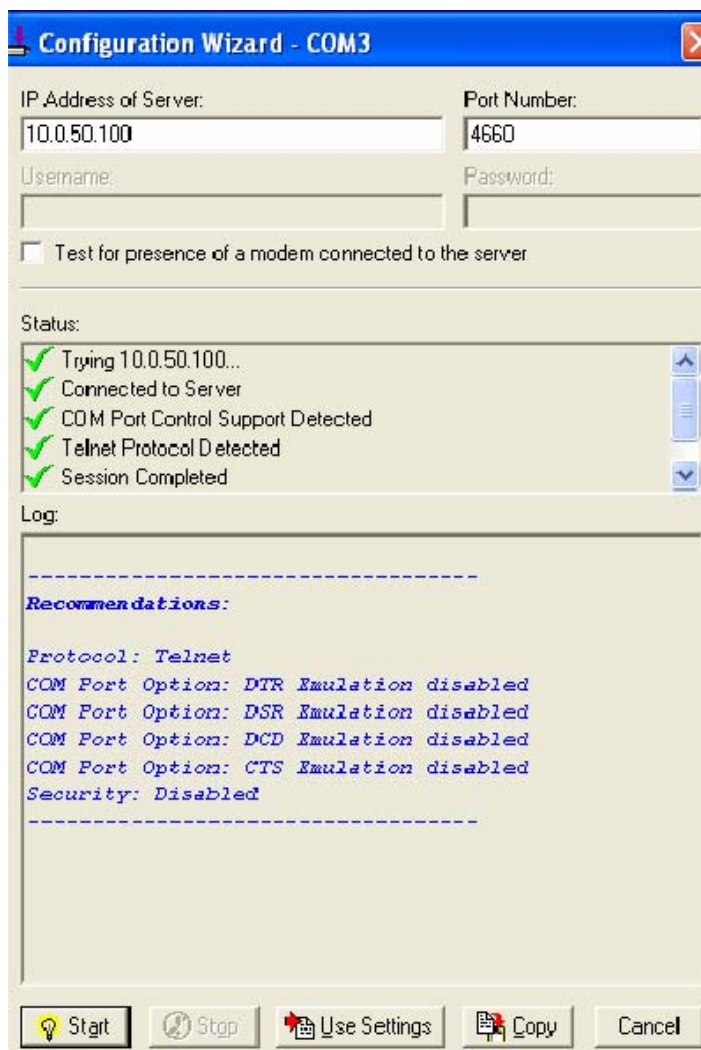

Fig 62. Serial/IP Configuration Wizard Window
- Click Configuration Wizard to pop up the wizard window as shown in Fig 62 and then click Start. This window verifies that the Virtual COM Redirector communicates with the serial server properly. If Log does not show errors, click Use Settings, and return to the Control Panel